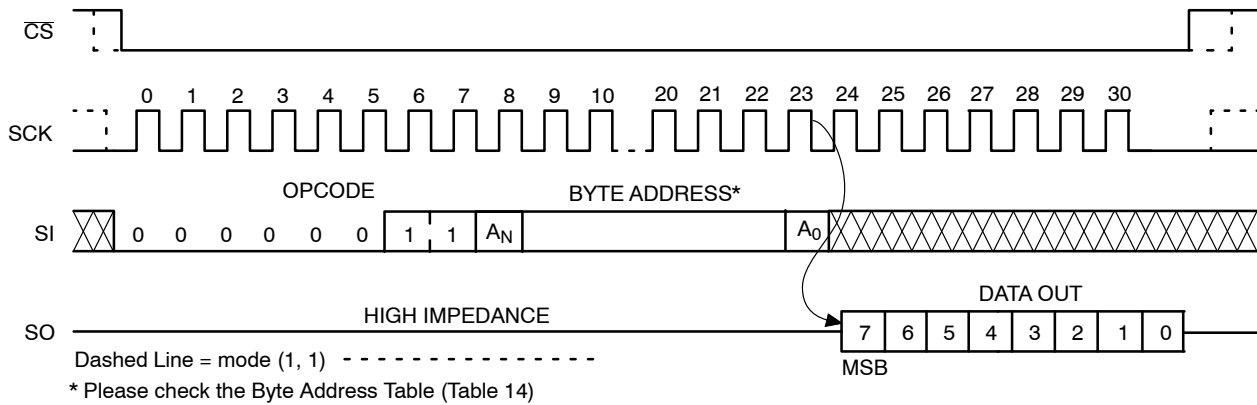

Figure 9. READ Timing
After receiving the last address bit, the CAT25128 will respond by shifting out data on the SO pin (as shown in Figure 9). Sequentially stored data can be read out by simply continuing to run the clock. The internal address pointer is automatically incremented to the next higher address as data is shifted out. After reaching the highest memory address, the address counter “rolls over” to the lowest memory address, and the read cycle can be continued indefinitely. The read operation is terminated by taking \overline{CS} high.
Reading the additional 64-byte Identification Page (IP) is achieved using the same Read command sequence as used for Read from main memory array (Figure 9). **The IPL bit from the Status Register must be set (IPL = 1) before attempting to read from the IP.** The [A5:A0] are the address significant bits that point to the data byte shifted out on the SO pin. If the CS continues to be held low, the internal